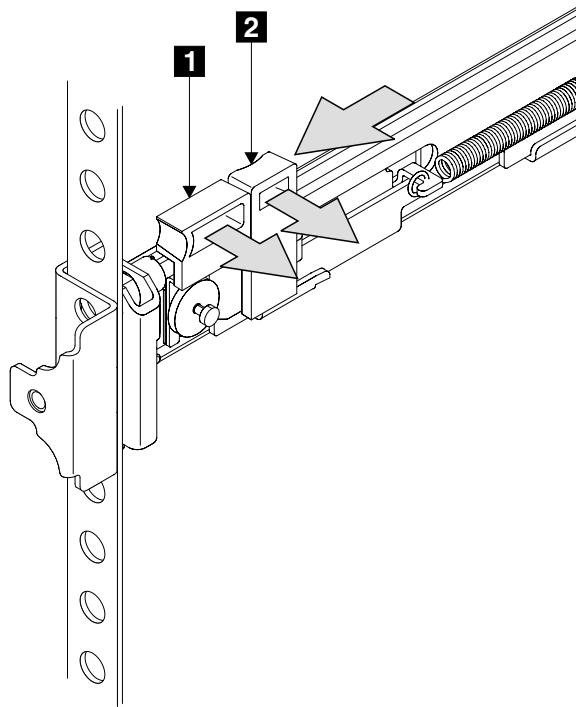

Figure 116. Closing the latch-lock carrier assembly
13. Push the latch lock **2** (Figure 116 on page 165) away from the rail to release the carrier. The latch-lock carrier slides toward the front of the rack, and the locating pins project through the holes that are in the front flange and in the front rail bracket.